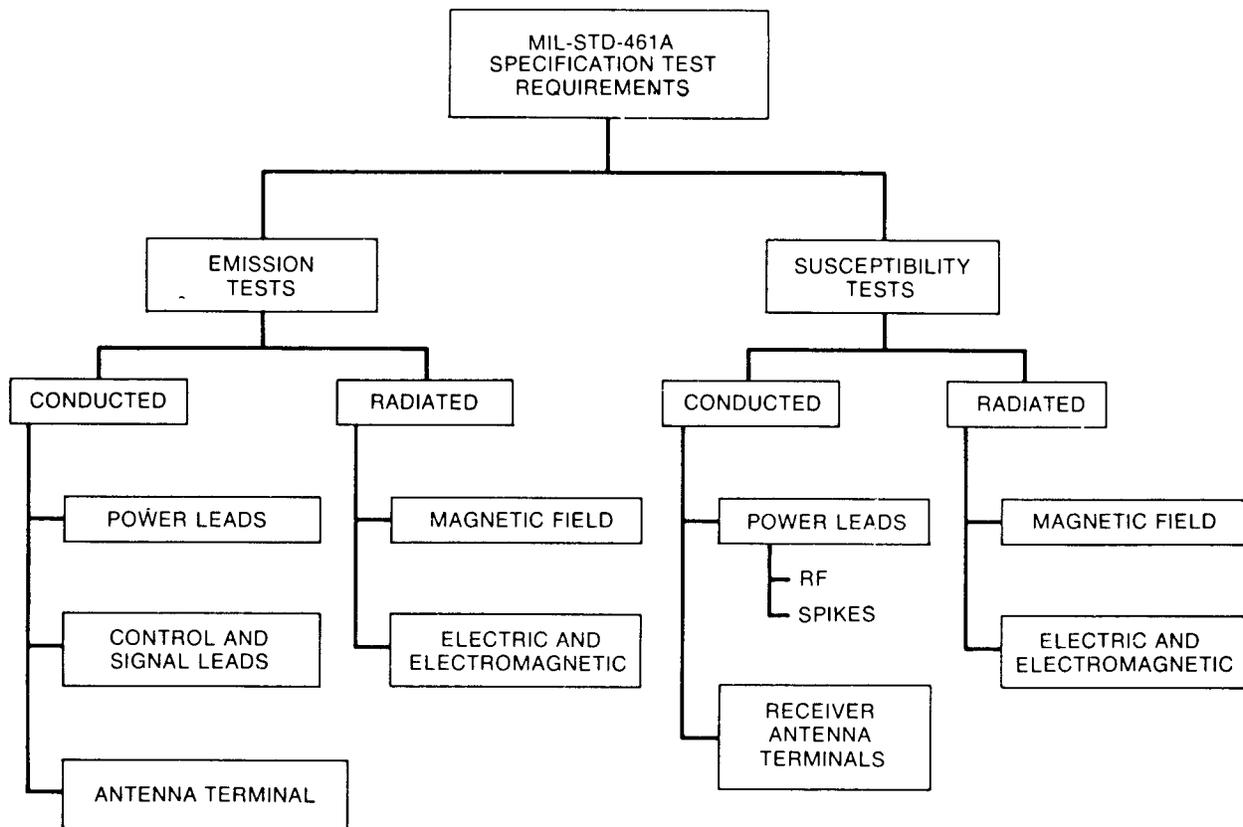

**Figure 1-8.** FCC Part 15, Subpart J and CISPR, Publication 22, radiated emission limits measured at a distance of 10 m.
- Figures 1-8 and 1-9 compare the FCC and CISPR limits for radiated and conducted emissions.